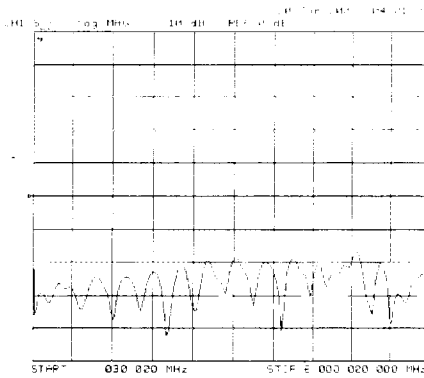

Figure 1-16. Reverse Reflection Mode
- 13** Press MEAS, Refl: E S22 REV to check the reverse reflection mode for channel 1. The measurement trace should be similar to Figure 1-16.